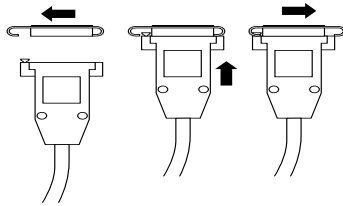

Figure 3-4 Ethernet AUI cable
- Make sure the sliding bracket on the Ethernet port on the system is pushed all the way left, as shown in Figure 3-4.